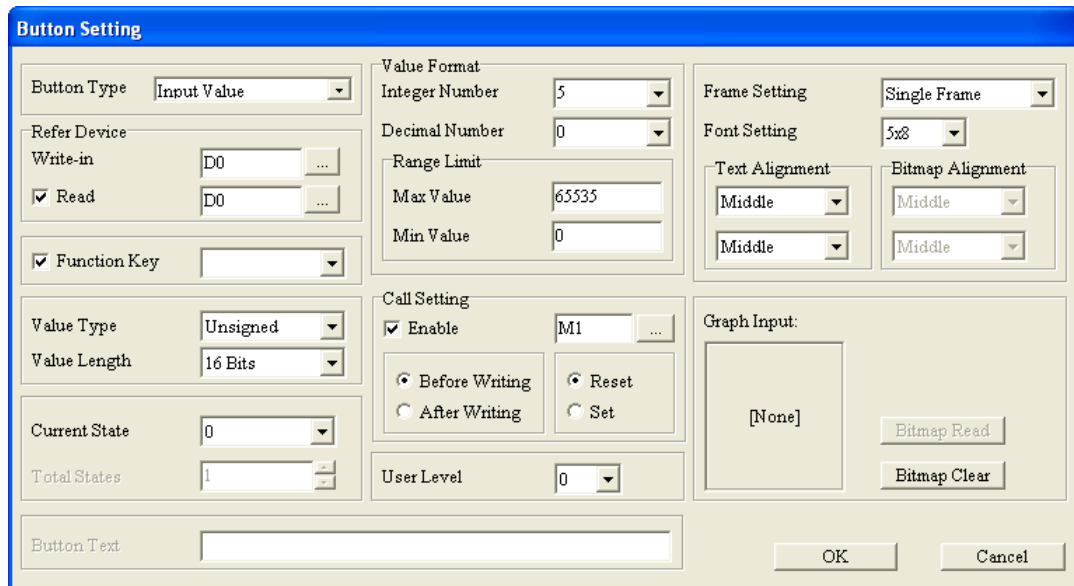

Figure 4-62 **Button Setting** window
- If **Input Value** is selected, the **Button Setting** window will be as shown in Figure 4-62.